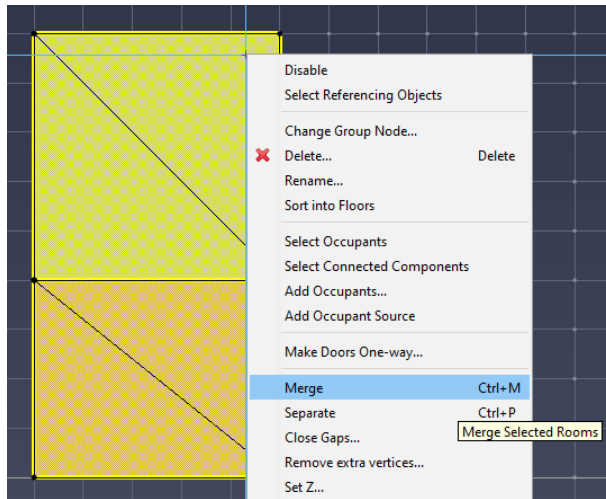

Figure 24. Two rooms to Merge
2. Select **Merge** from either the **Model** menu or the right-click menu (Figure 24)